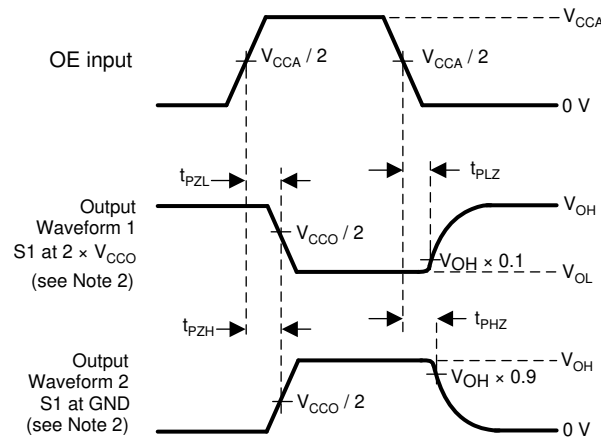

Figure 7-6. Enable and Disable Times
2. Waveform 1 in Figure 7-6 is for an output with internal such that the output is high, except when OE is high (see Figure 7-3). Waveform 2 in Figure 7-6 is for an output with conditions such that the output is low, except when OE is high.